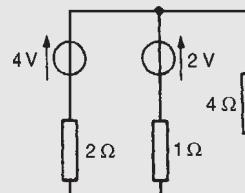

Figure 13.56
**Problem 14.** Use Norton’s theorem to determine the current  $I$  flowing in the  $4\Omega$  resistance shown in Fig. 13.56
- (iv) From the Norton equivalent network shown in Fig. 13.56(b) the current in the  $4\Omega$  resistance is given by: